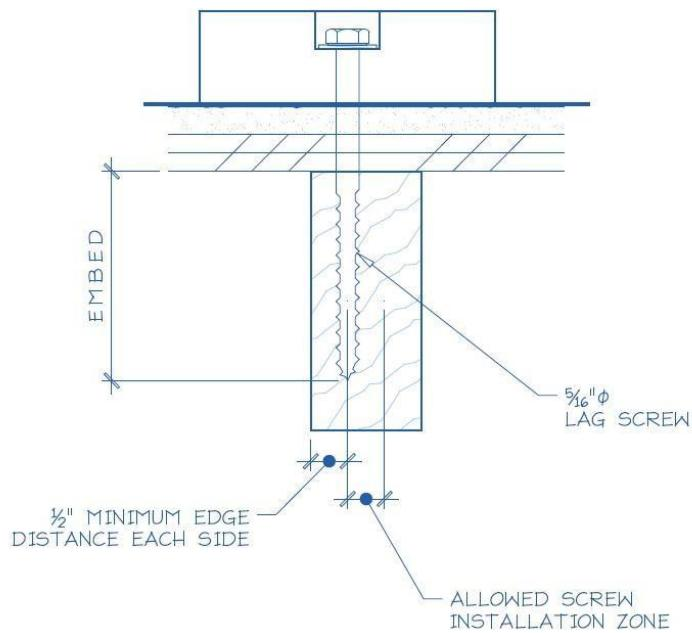

Figure 3. Typical Anchor with Lag Screw Attachment.
1). Anchor fastener data (see Figure 3):